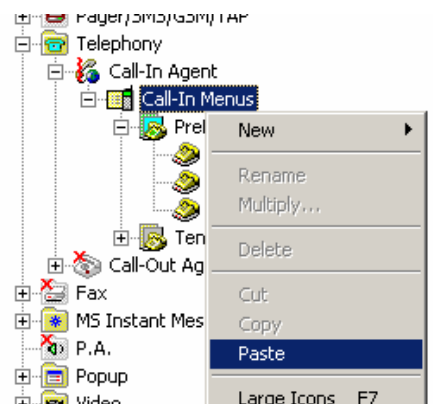

Figure 9.7. Pasting a Group or Menu
2. Right-click the target folder and select **Paste** from the pop-up menu, as shown in Figure 9.7.